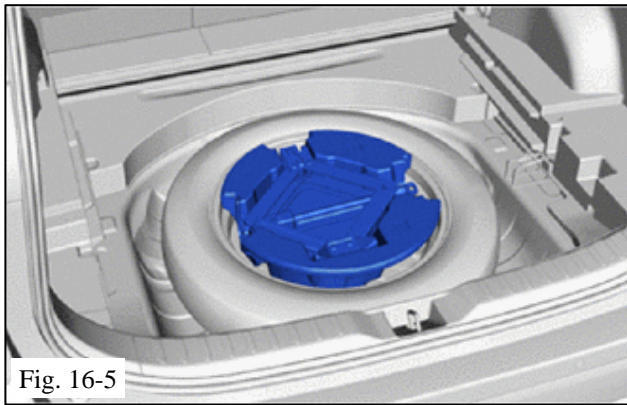

Fig. 16-5
- (e) Disengage and lift the Spare Wheel Cover Stopper (Fig. 16-5).